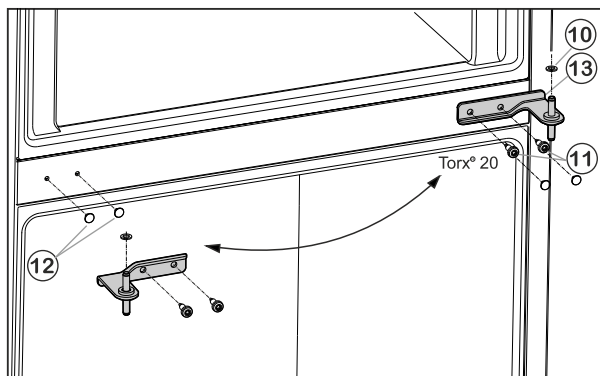

Fig. 6
- Carefully pull off the covers Fig. 6 (12) and fit to the opposite side.